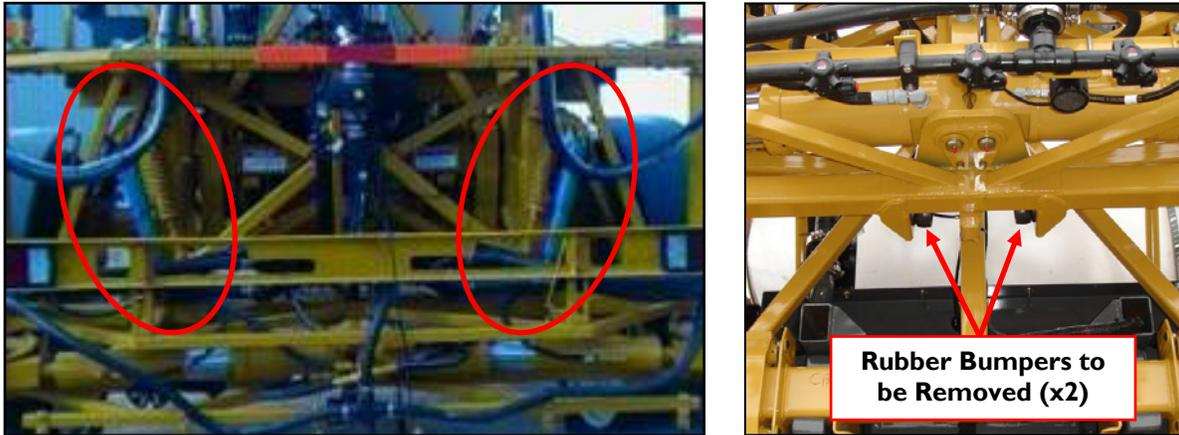

Figure 26: AGCO Factory Spring / Damper and Rubber Bumper Location
1. Before installing the linear roll cylinder, the factory springs, dampers and rubber bumpers must be removed from the sprayer (Figure 26).